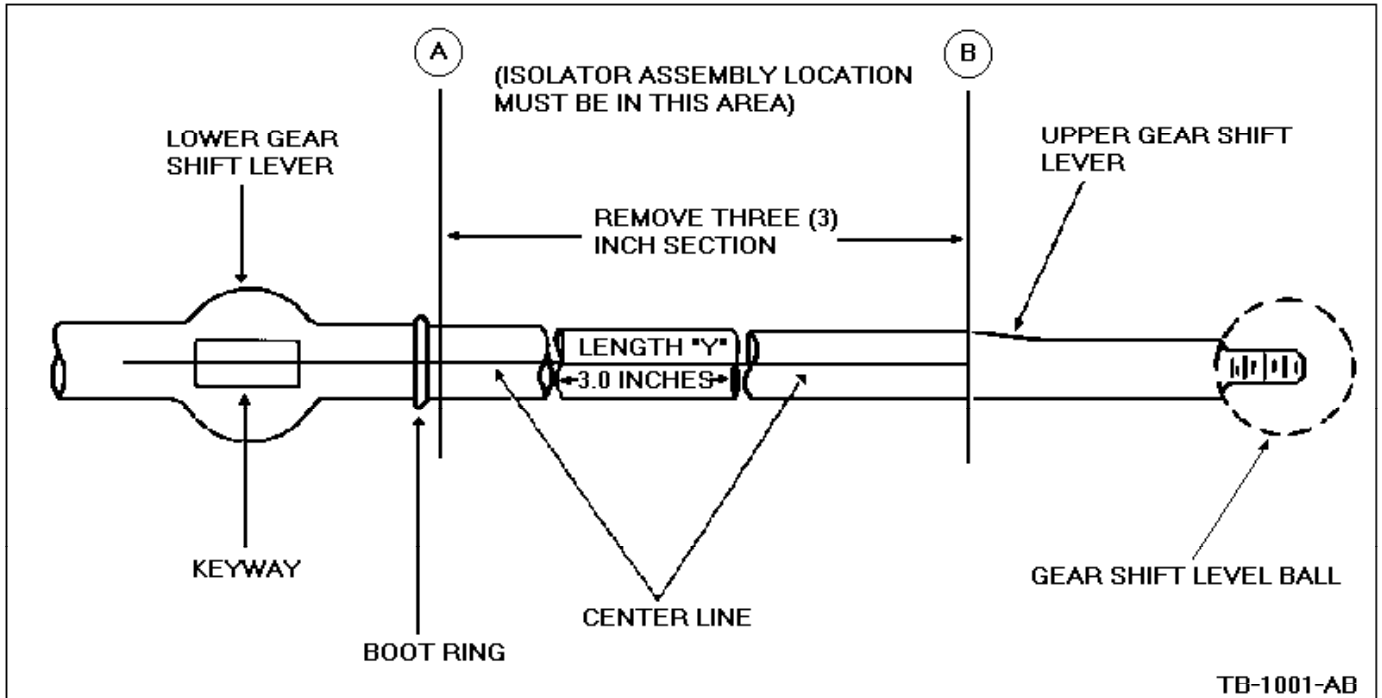

Figure 2 - Article 89-5-18
2. Scribe a location line along the gear shift lever center line at midpoint in the keyway, Figure 2.
3. Cut out a three (3) inch section of the gear shift lever from between point A and point B, Figure 2.